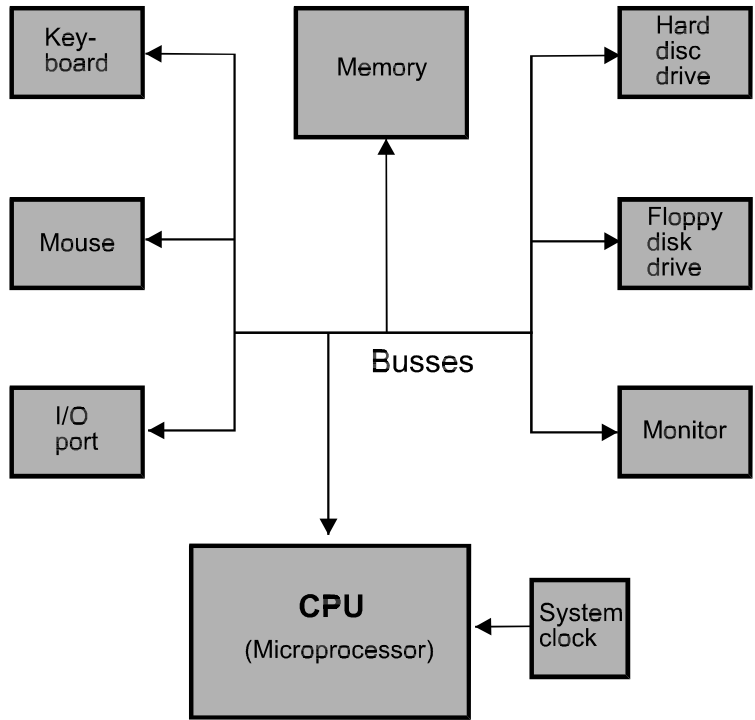

Figure 1.5 This simplified diagram of a PC shows that it has much in common with the typical control systems of Figs. 1.1 and 1.3.
There is much to be said about computer systems in later chapters, so for the present we will simply state the main ways in which they differ from the typical microcontroller systems described above. In essence, all computers have the same main features and we may take the typical personal computer (PC), as our example (Fig. 1.5).
The basic features are the same as in any microelectronic system: CPU, memory, input and output. Because the PC is intended to perform a wide range of often complex operations at high speed, a microprocessor is chosen as its CPU. Usually the system clock is a separate unit, as shown in Fig. 1.5. In contrast to systems such as the cordless telephone and PLCs, the PC has a full-sized keyboard, with over a hundred keys. It normally has a colour monitor.
One of the distinctive features of a PC and other computer-like systems is the *bus*. To assist the rapid transfer of data between the CPU and the other parts of the system the units are linked by a set of parallel conductors, shown for simplicity as a single conductor in Fig. 1.5. In practice, the bus consists of three separate busses, each with its own task, as will be explained in Chapter 2.